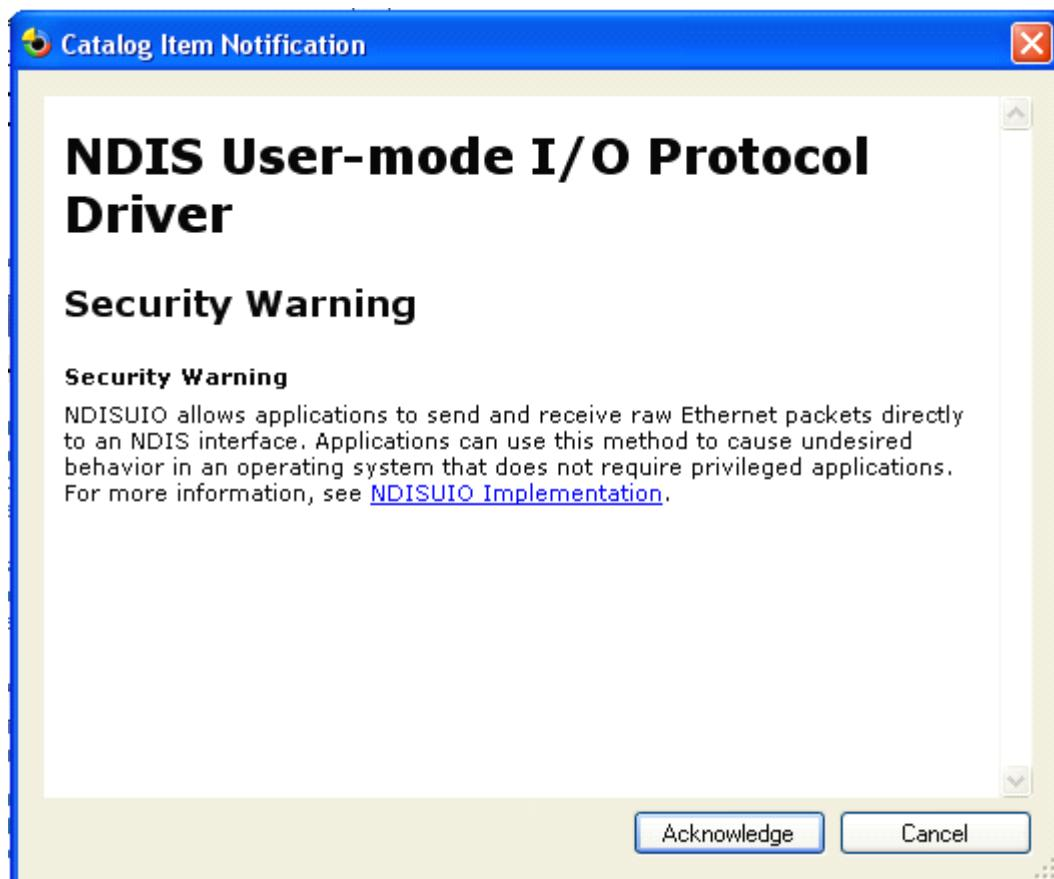

Figure13.4.10
10. Click Acknowledge in the interface as shown in Figure 13.4.10 to finish the initial customization of WinCE 6.0 OS.